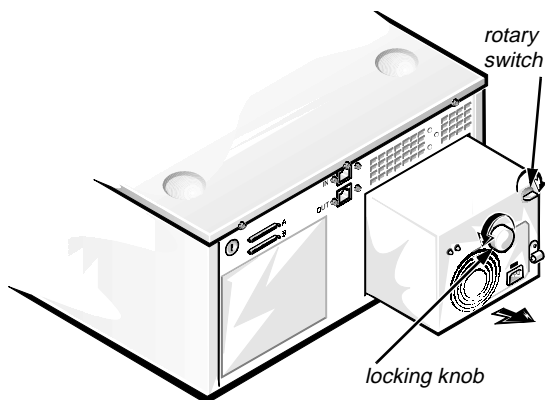

Figure B-8. Removing a Power Supply
2. Turn the rotary switch on the power supply clockwise to the “off” position, marked by a “0” (see Figure B-8).